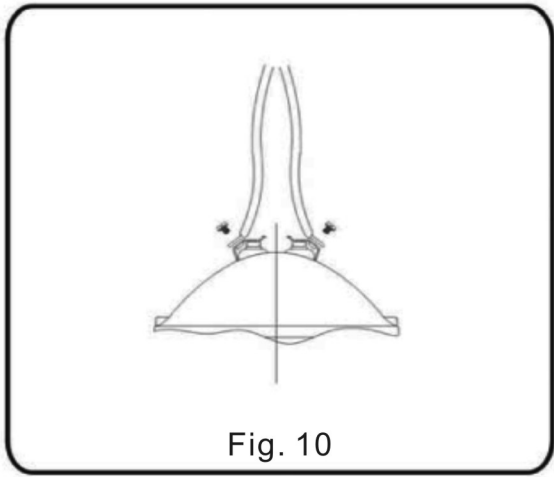

Fig. 10
- Connect the cable terminals to the lamp, using the 2 screws supplied with the lamp (Fig. 10).